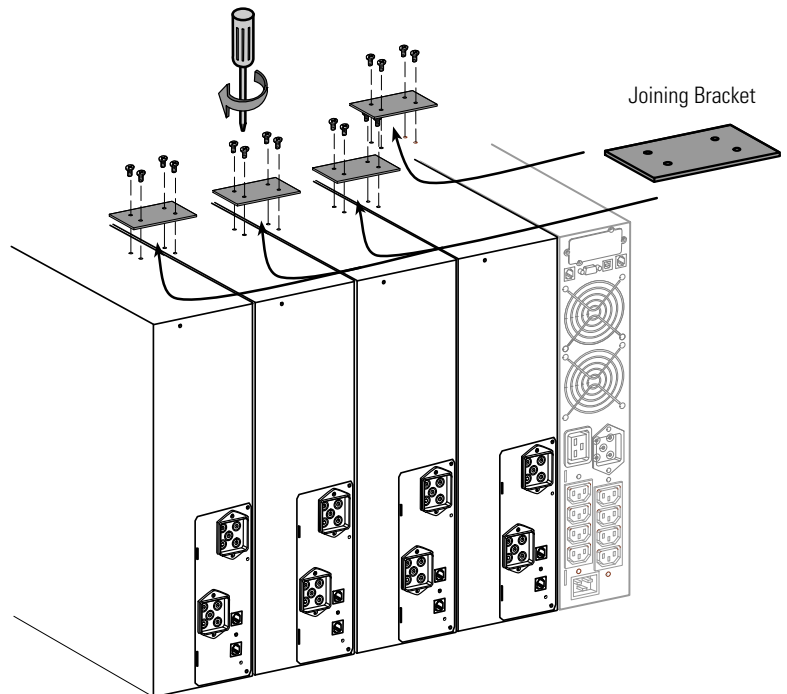

Figure 7. Installing the Joining Brackets
5. Align each joining bracket with the adjacent cabinet screw holes and secure with the supplied screws (see Figure 7).